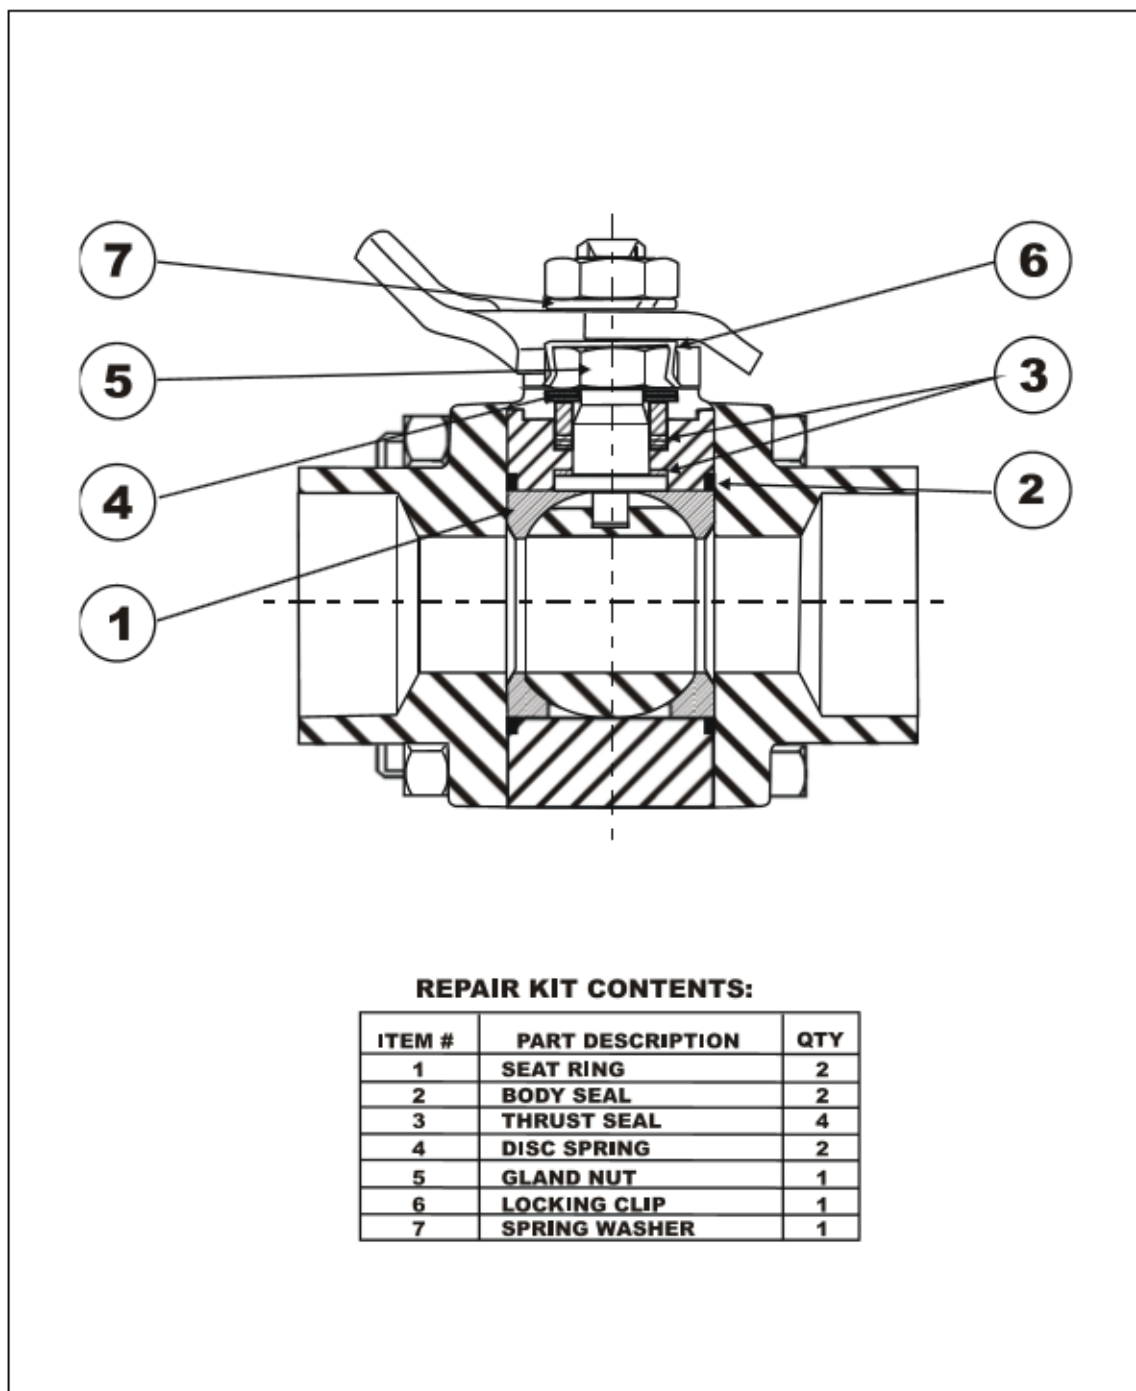

Fig. F-2
- 2) There is a repair kit available for the Worcester valve. See Fig. F-2.